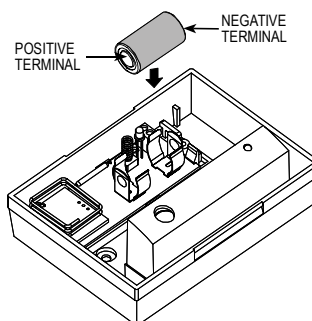

Figure 7. Battery Insertion
- D. Insert the battery into the battery clips, as shown in Figures 7 and 8. **Observe Polarity!**